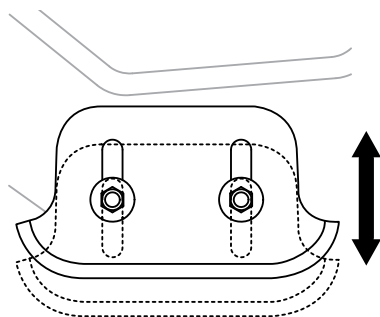

Fig. 16B
3. The height of the skid shoes can be adjusted according to the actual snow conditions without removing the nuts. Just loosen the nuts, adjust the skid-shoe position up or down, and then retighten. (Fig. 16B)